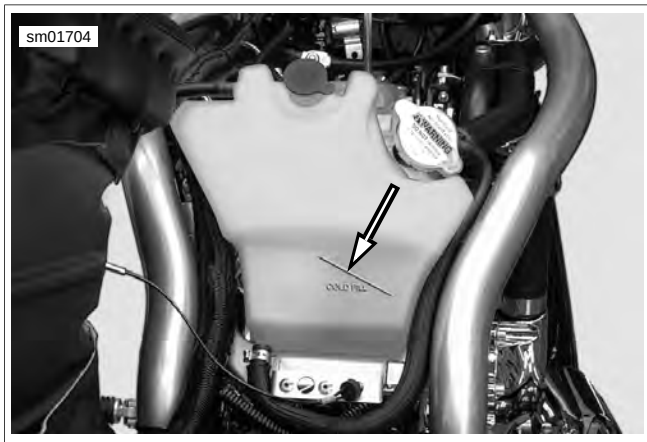

Figure 1-37. Cold Full Line On Overflow Bottle
2. See Figure 1-37. Check coolant level in overflow bottle with coolant cold and motorcycle on jiffy stand. If level is below COLD FULL line on tank, fill with GENUINE HARLEY-DAVIDSON EXTENDED LIFE ANTIFREEZE AND COOLANT. See 5.4 ENGINE COOLANT.